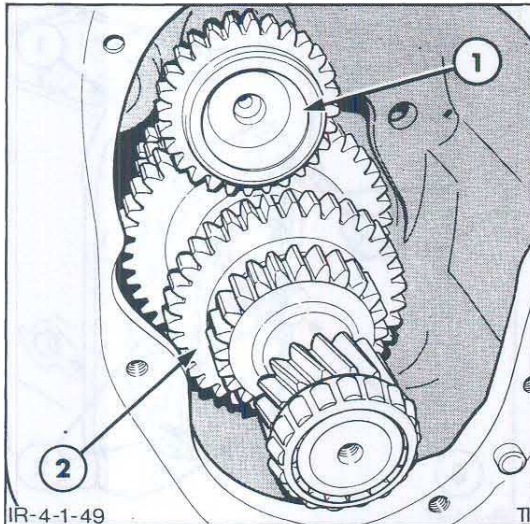

Figure 50
3. Lift the countershaft assembly Figure 50 and remove from the rear end of the transmission case.